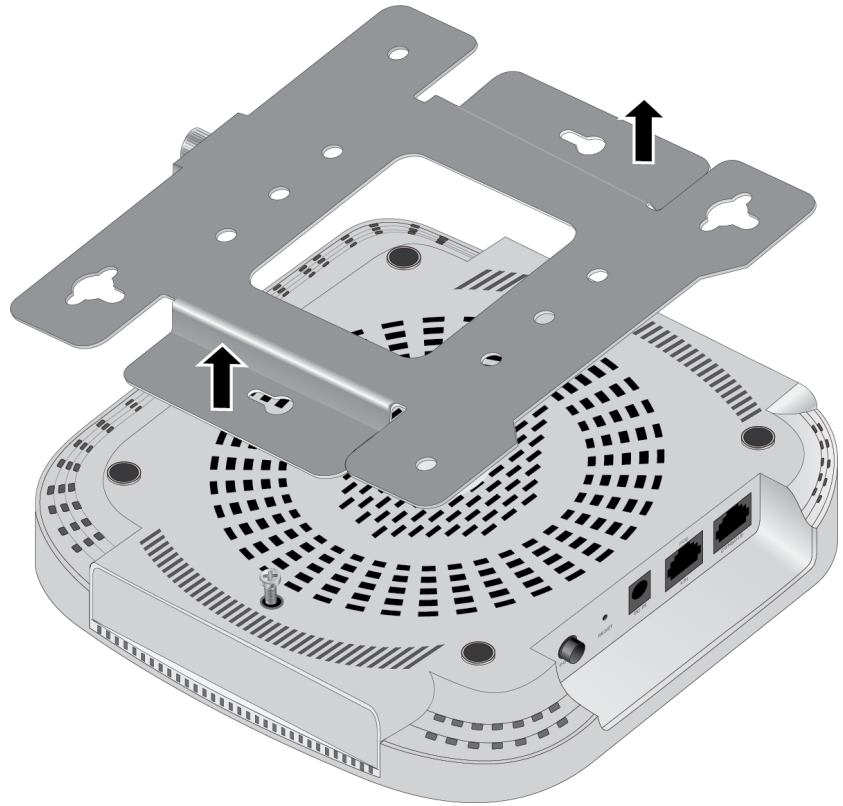

Figure 10. Removing the Mounting Bracket from the Access Point
4. Slide the mounting bracket forward and temporarily remove it from the wireless access point. Refer to Figure 10.